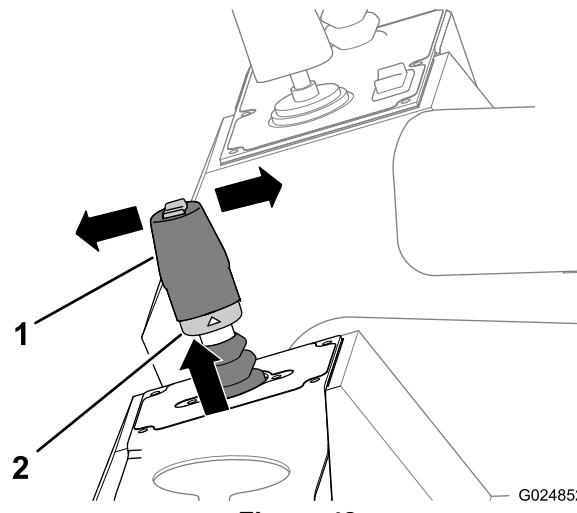

Figure 42
- Lift up on the lock ring that is at the bottom of the joystick handle (Figure 42).
- Move the lever forward (toward the front of the machine) to move the machine forward (Figure 42).
- Move the lever rearward (toward the rear of the machine) to move the machine in reverse (Figure 42).
- Release the lock ring and the lever (Figure 42).
- Return the lever to the Neutral position to stop the machine (Figure 42).